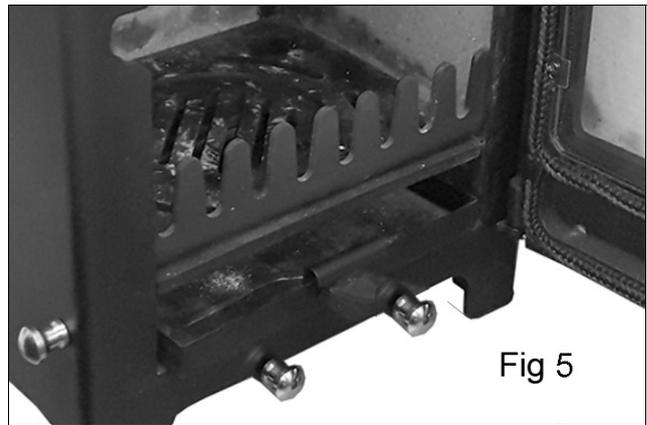

Fig 5
4. Fit the log retainer into position in front of the grate as in Fig 5.
When the stove is positioned near a wall constructed of flammable material, the distances shown on Fig 5 must be adhered to. Alternatively, a heat shield may be used, mounted according to the position of the fireplace. A firewall must be at least 100mm thick and typically made of brick, or concrete/stone.